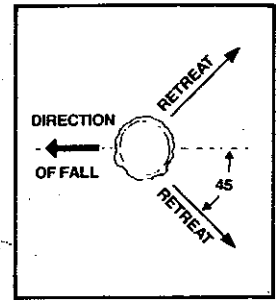

Figure 20
- h. Plan a clear retreat path to the rear and diagonal to the line of fall. Figure 20.